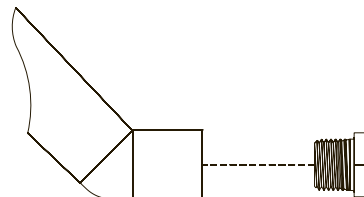

Figure 37
3. Remove LP burner orifices marked 1.25 mm for R3B. Remove LP burner orifice marked 1.3 mm for R3. **See Figure 37.**